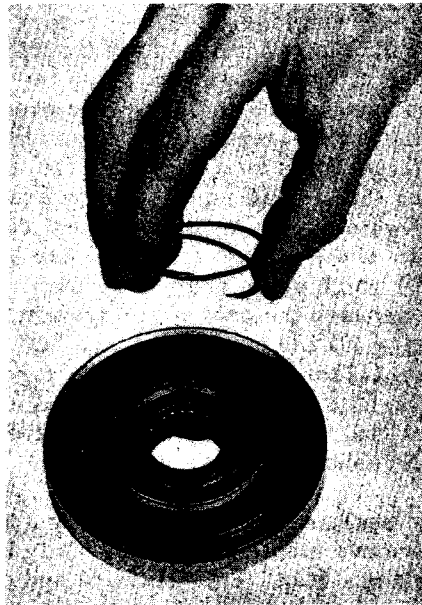

FIG. 5 SNAP RING INSERTION INTO CLUTCH PULLEY
- Fig. 5. Snap Ring Insertion into Clutch Pulley.
- 9.4.4 To install the snap ring (13) which retains the bearing (14) with bearing sleeve (15), spread the ring apart as shown in Fig. 5. Insert the free end of the snap ring into the groove in the pulley and press in the ring a little at a time until it snaps into position.